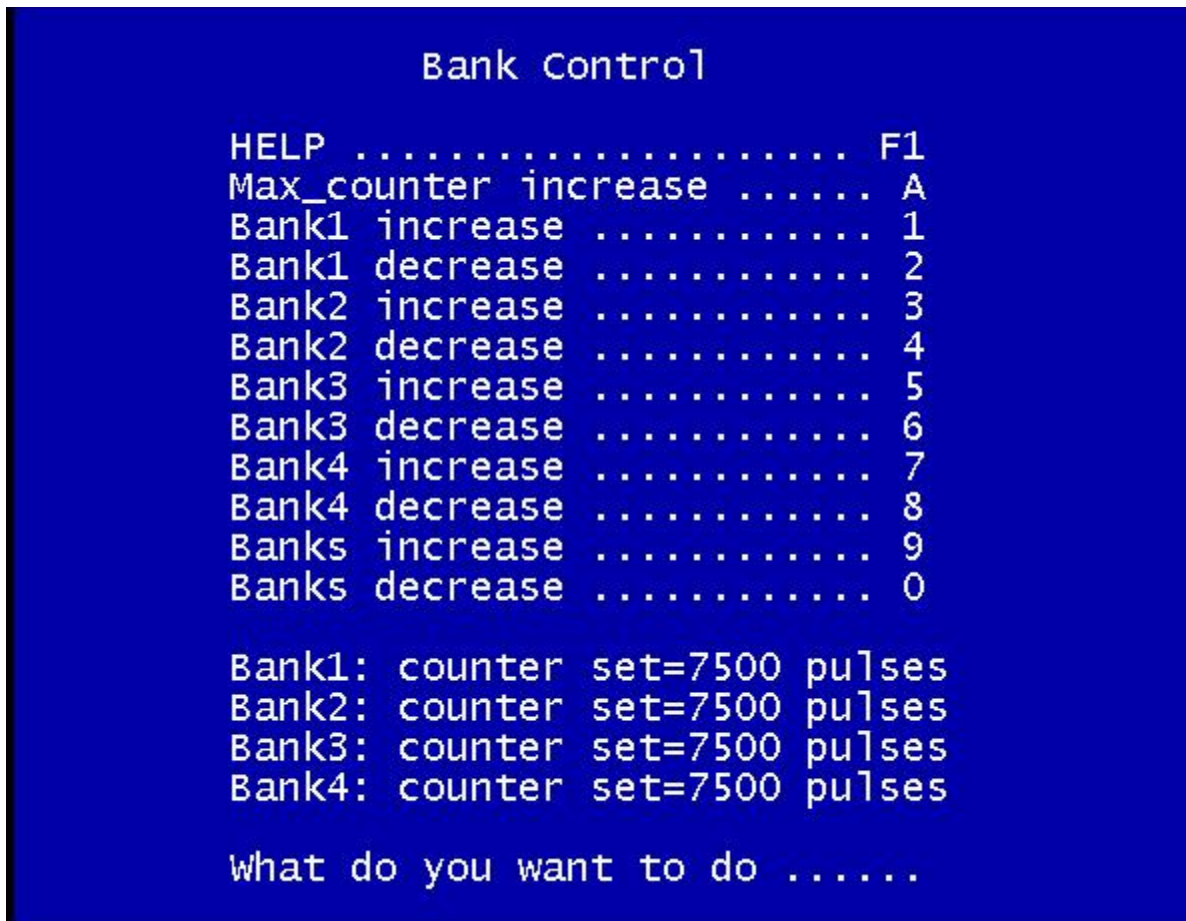

Figure 3-17. Bank Control Screen
2. The *Bank Control Screen* will appear (see Figure 3-17).
- i. If you press the **2 key**, multiple times, the corresponding **bank1: counter set point** (located at the bottom of Figure 3-17), pulses will decrease and therefore allow lamps to turn on for that bank.